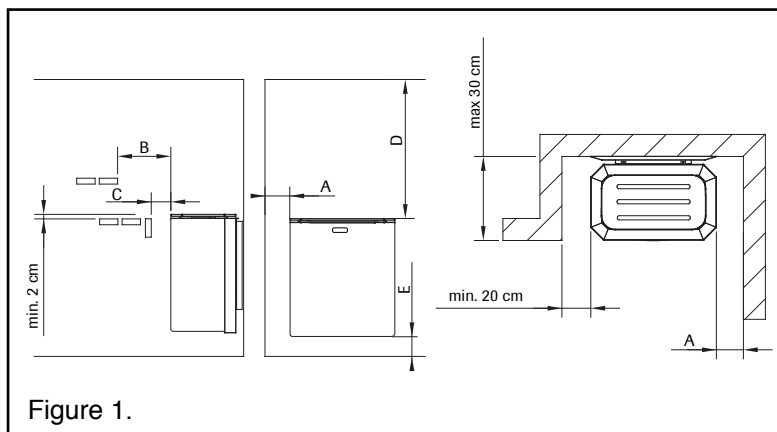

Figure 1.
**) See Figure 1
- The NARVI NC sauna heaters of 6.0 kW can also be installed in a wall recess, provided that the safe distances given by Figure 1 are observed.